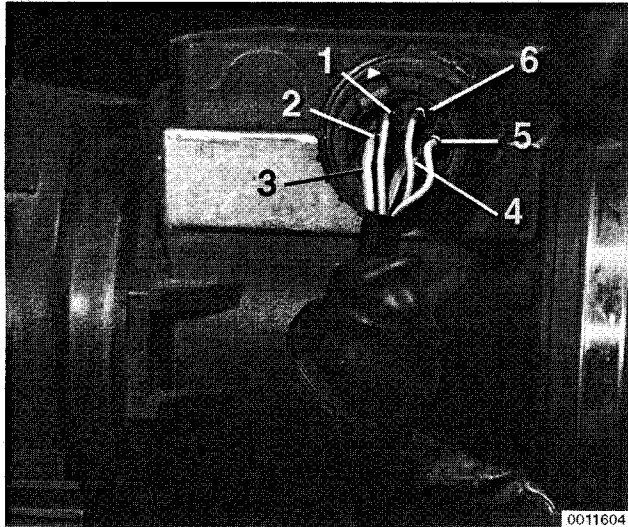

Fig. 26. Mass air flow sensor terminal identification on cars with DME M3.1 fuel injection.
5. Reinstall air flow sensor and harness connector. Peel back rubber boot from harness connector. Working from rear of connector, connect digital voltmeter across terminals 1 and 4. See Fig. 26.